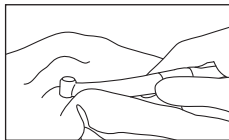

Fig. 13
- 3) Wipe the exterior of the handpiece clean using a cloth moistened with disinfectant or ethanol with a concentration of 60-90%. (Fig. 13)